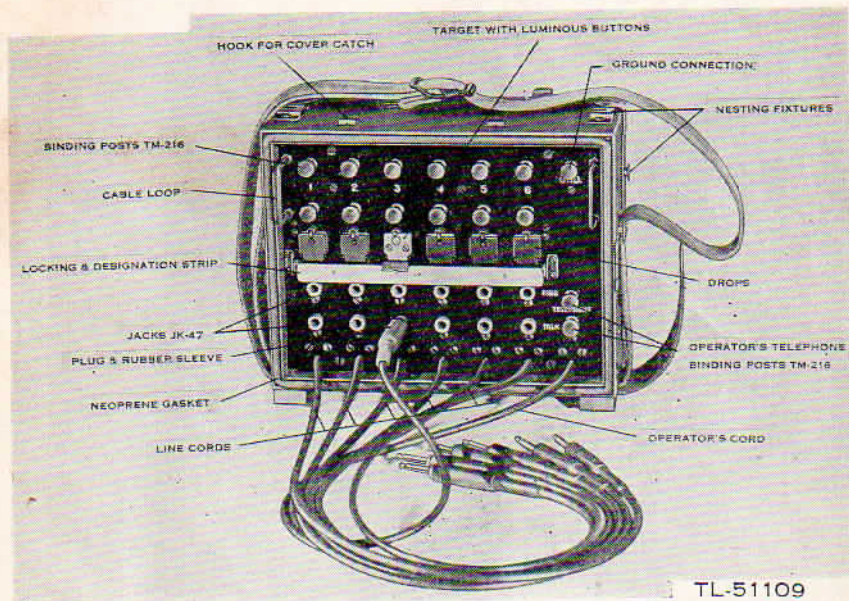

Figure 2. Switchboard SB-5/PT, front view.
for various purposes described below. Bag BG-169 may be used to more completely waterproof models of Switchboard SB-5/PT manufactured with a wooden case. Bag BG-169 is not supplied with Switchboard SB-5/PT but may be obtained through proper supply channels. The box has a cover that can be removed completely. The cover is held to the box by four catches. The front panel on which are mounted all necessary terminals and other parts that have to be operated (fig. 2) is exposed when the cover is removed.
*d. Panel.* The panel is mounted to the box by four captive screws (figs. 2 and 8). On the panel are mounted the following components:
(1) Twelve line terminal Binding Posts TM-216 at the top of the panel.
(2) The lightning arrester bar in back of the panel with the associated ground terminal.
(3) The target-type line drops, including a luminescent button for each drop. After a drop shutter falls, it exposes the silver-plated target with the luminescent button which is visible in complete darkness.
(4) The line designation strip, which also serves to lock the drops during transportation.
(5) The 12 Jacks JK-47 arranged in two rows of six each, marked RING and TALK.
(6) The six line cord and plug assemblies with black, rubber plug sleeves.
(7) The operator's cord and plug assembly with a red, rubber plug sleeve.
(8) The operator's TELEPHONE terminals.